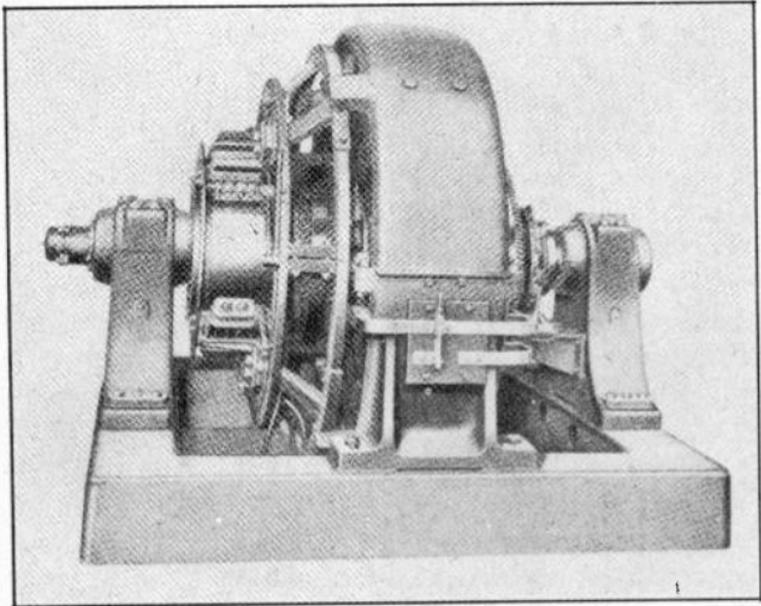

Fig. 7. Photo of a large generator, which produces its voltage by induction.
**Group 1.** Devices which change the original non-electrical energy into moving electricity or into electric current. Here we shall have electric generators or dynamos like that of Fig. 7, also storage batteries, thermocouples, photovoltaic cells, and piezo-electric crystals.